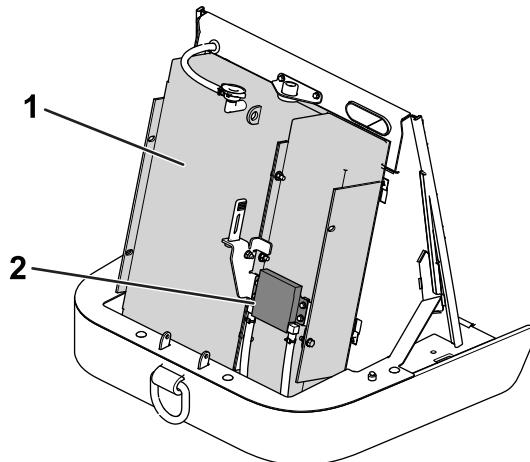

**Figure 119**
2. Lower the front screen by releasing the strap that holds it in place (Figure 119).